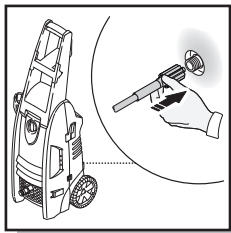

Fig.10
- Screw the high pressure hose (clockwise) on the unit as shown in Fig 10. The end of the hose must be inserted into the fitting so the collar can thread onto the outlet threads until hand tight. Do not use pliers or vice grips to tighten. If it takes fewer than six or so turns you have not properly tightened the high pressure hose fitting. It is easier to position the pressure washer in front of you so to ensure that the threads are started correctly. Failure to properly tighten the high pressure hose will result in the hose slipping or popping off immediately upon turning the unit. Do not worry about damage if this occurs - just reinstall and take extra care at screwing on the high pressure hose fitting.